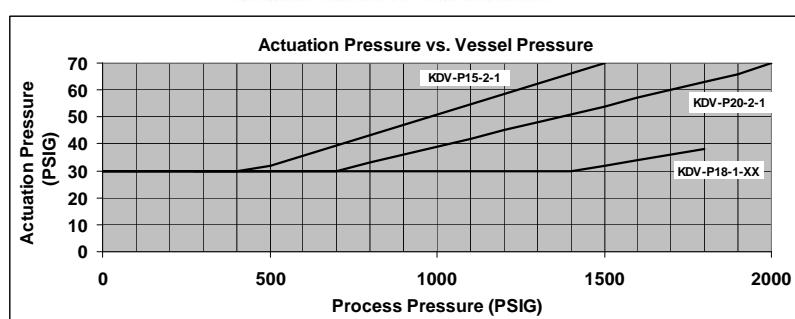

FIGURE 2
**Valve Actuation Pressure:** 30 to 70 psi depending on process pressure (see figure 2)